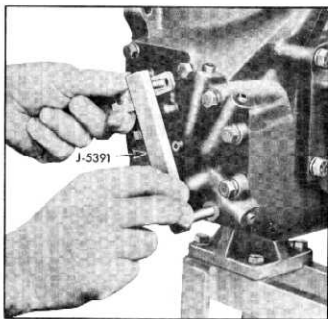

Fig. 149—Use of Outer Throttle Valve Lever Gauge
3. Remove lower right side cover bolt and with clamp "C" held back lightly against stop in transmission measure distance between hole in side cover and hole in throttle lever with throttle lever positioning gauge J-5391 (fig. 149). If pins of gauge will enter holes adjustment of lever "D" is correct. If not, loosen